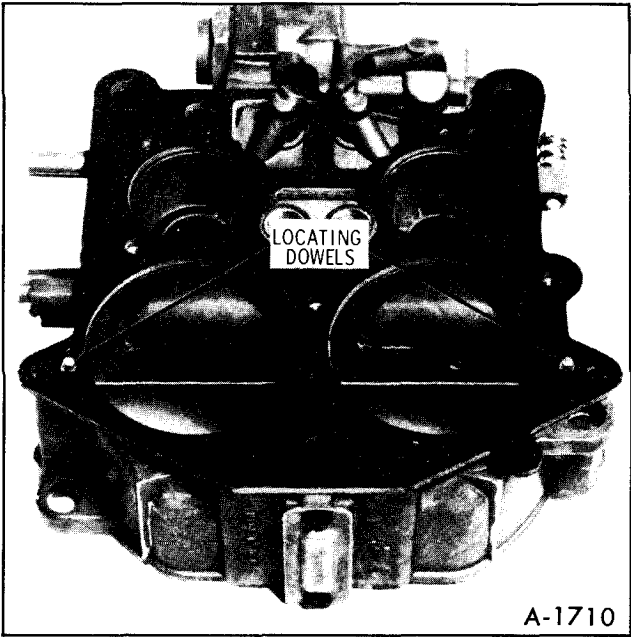

Figure 25-Throttle Body Gasket
3. Remove throttle body to bowl insulator gasket. See Figure 25.
1. Install new throttle body to bowl gasket over two locating dowels on the bowl as shown in Figure 25.